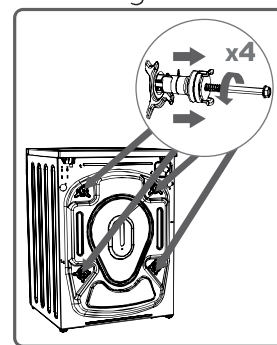

Fig3
**2:** Remove the bolts by pulling them. (Fig 3)